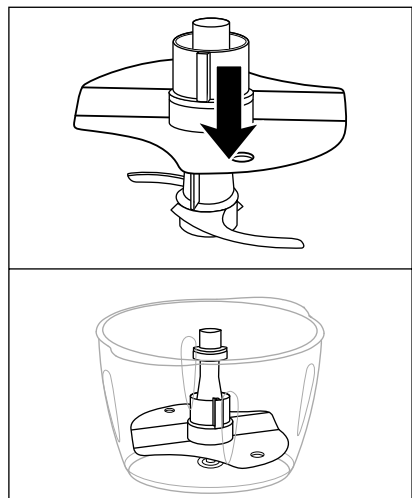

Fig. 1
- 1) Place the bowl ⑨ on the non-slip ring ⑪.
- 2) Push the emulsifying disc ⑫ onto the blade holder ⑦:
- To whip 200–400 ml of cream, place the emulsifying disc ⑫ onto the blade holder ⑦ so that the emulsifying disc ⑫ is in contact with both parts of the blade ⑧ and clicks into place (fig. 1):